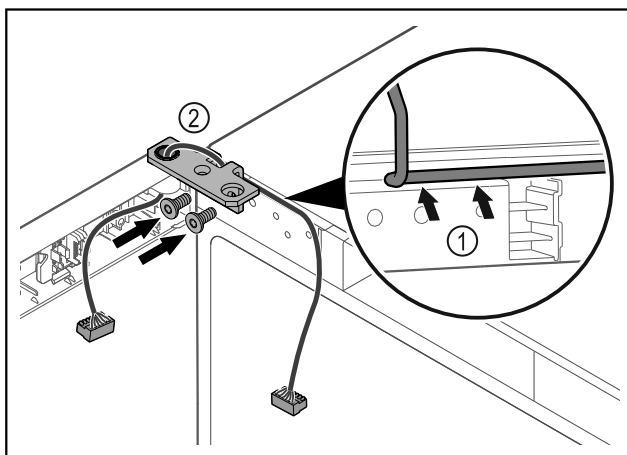

Fig. 31
- Feed the cable through the recess in the hinge and lay it carefully Fig. 31 (1).
- Screw on the hinge Fig. 31 (2).